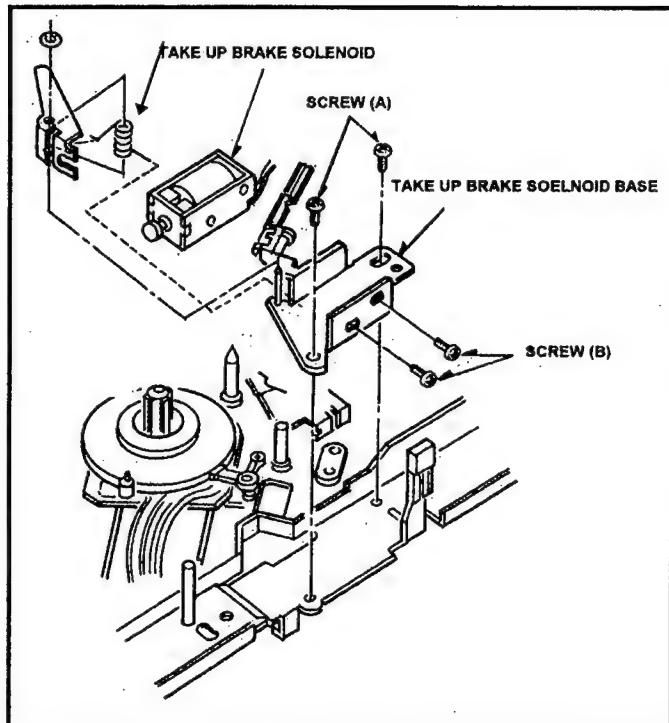

Fig. 4-11-1 Removal of Take Up Brake Solenoid
1. Remove the Mechanical Unit (Refer to item 2-1, Removal of Mechanical Unit).
3. Unscrew the 2 screws (A) and remove the Take Up Brake Solenoid Base Unit as shown in Figure 4-11-1.
4. Unscrew the 2 screws (B) and remove the Take Up Brake Solenoid from Take Up Brake Solenoid Base Unit as shown in Figure 4-11-1.
**Note:** Hang on the Take up Brake Spring as shown in Figure 4-11-1.